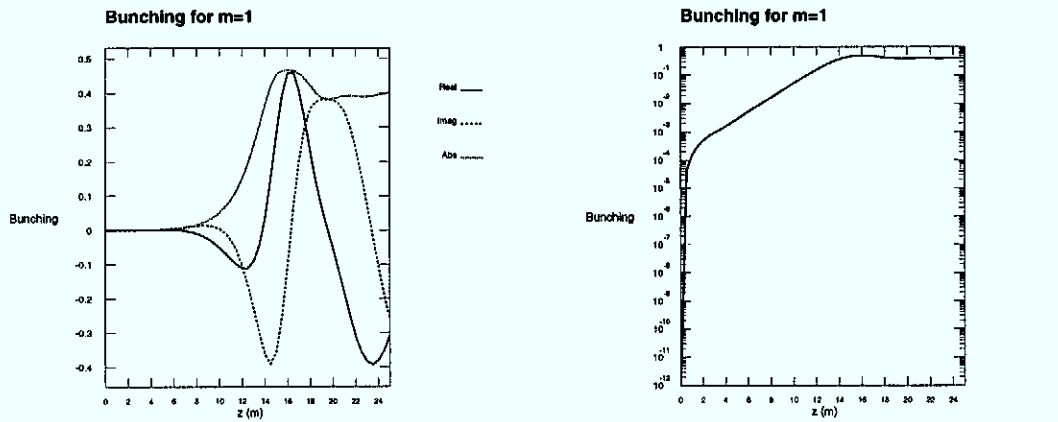

Figure 3: The bunching parameter along the undulator.
- The bunching parameter (See Fig. 3):